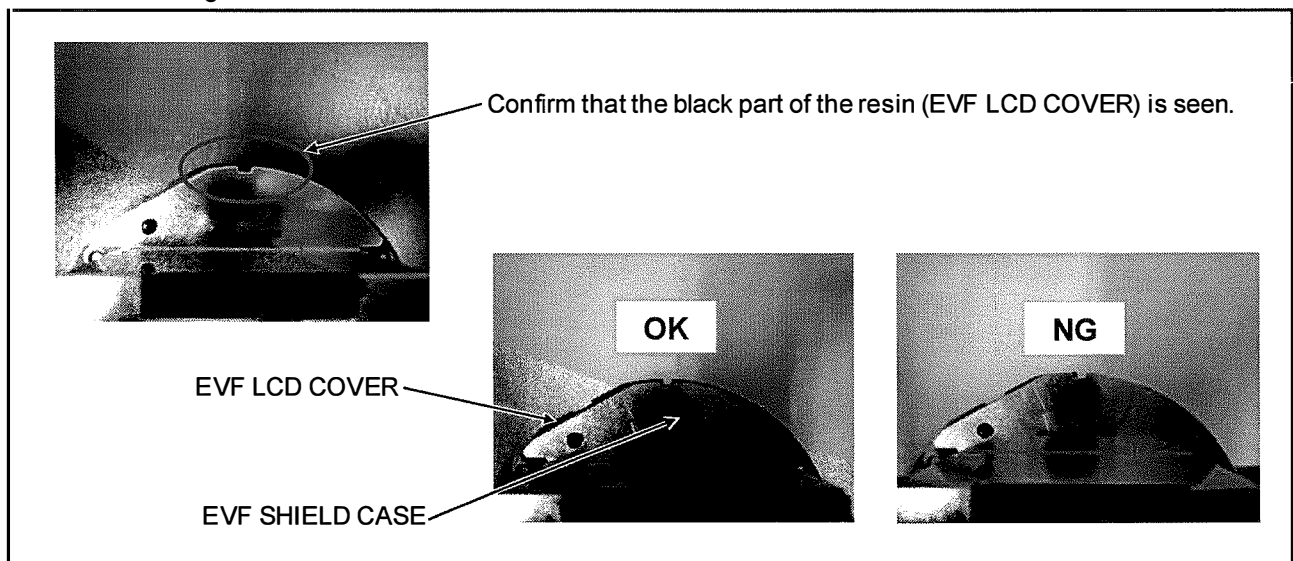

Figure 12-9
2. Confirm that the black part of the resin (EVF LCD COVER) is seen from the edge side of EVF SHIELD CASE as shown in figure 12-9.